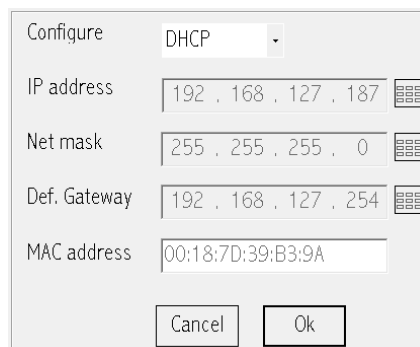

Figure 9-1 - Automated Network Configuration
- ii. Choose the Network Configuration option. A dialog box will appear on the screen (Figure 9-1)